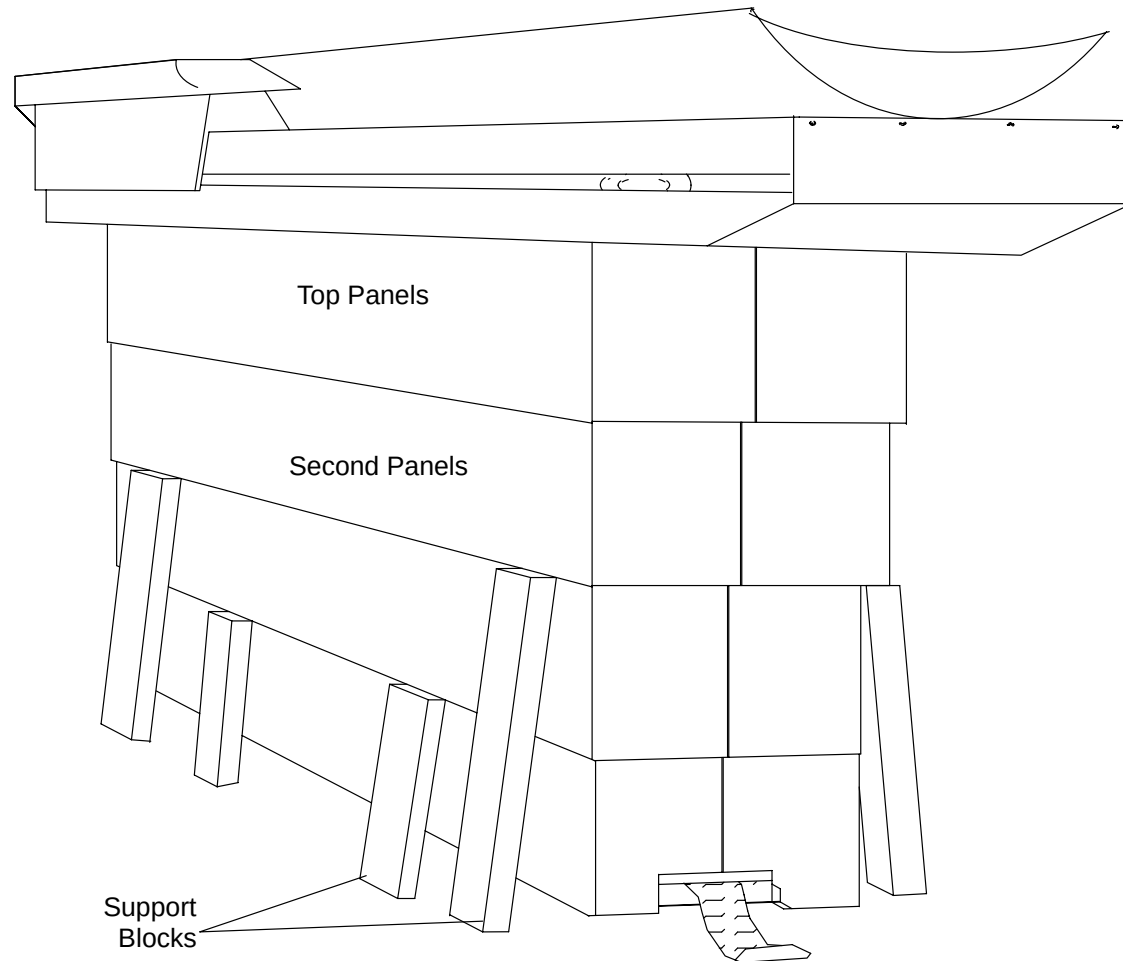

FIGURE 187 TELESCOPING PANELS BLOCKED BEFORE REMOVAL
10. Block the Telescoping Panels under the second Panel and the third Panel from the top. Place Blocks at the front and rear of each side Figure 187 .